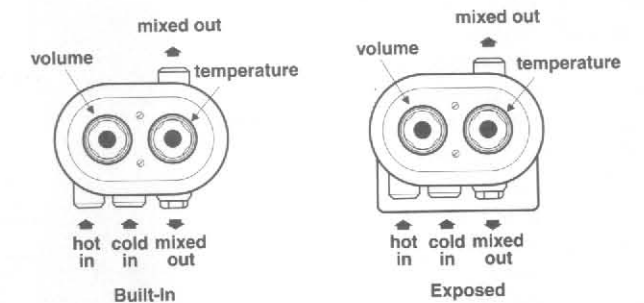

Fig. 7 As delivered Installation Configuration A
12. For a surface mounted installation screw the mixer to the wall using fixing lugs. Locate pipework (Figs. 7 and 8), flush out thoroughly to remove debris. Connect supply pipework to the mixer and ensure that it is rigidly secured to the wall. Fit plastic pipe trims for cover (28a) as appropriate.
1. Trevi Boost is delivered ready for installation with the volume control on the left and the temperature control on the right. (See configuration A - Fig. 7).